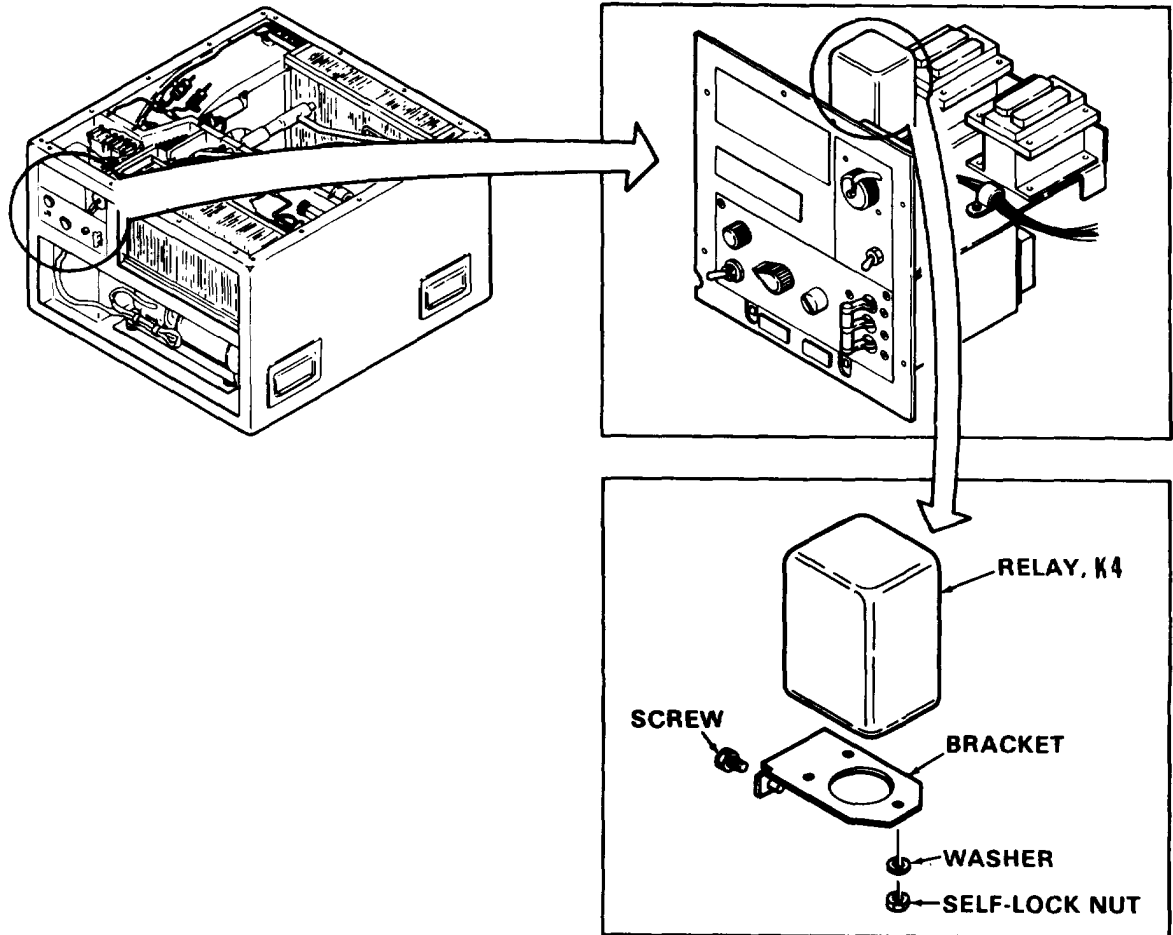

Figure 4-18. Condenser Fan Relay
- (1) Refer to paragraph 4-27 and remove the junction box.
- (2) Refer to figure 4-18 and remove the condenser high speed relay.